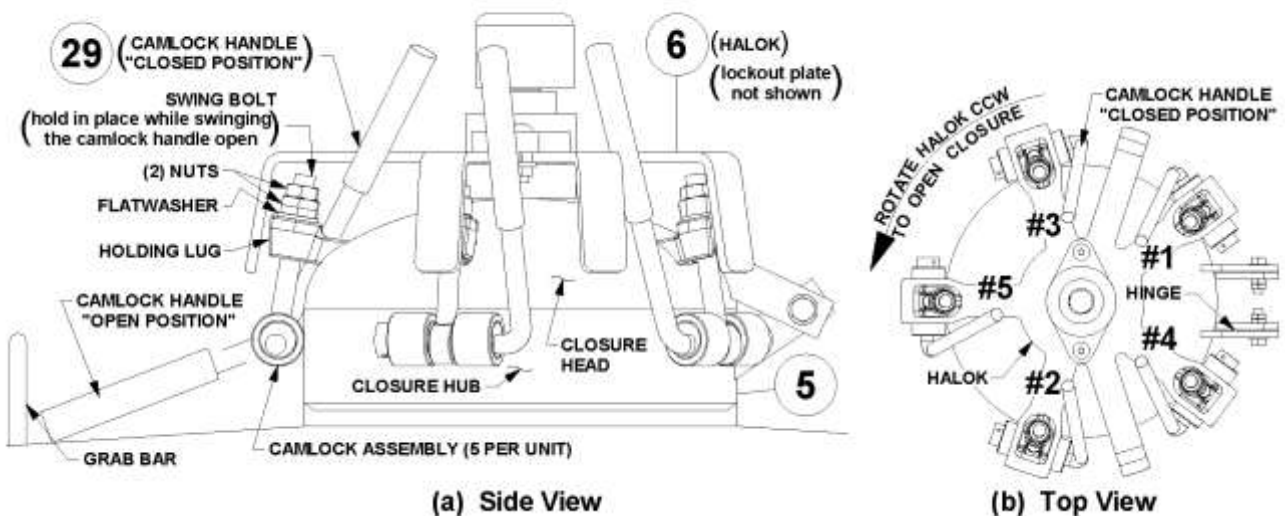

Figure 6.3.1 – Bulk Abrasive Blaster Closure Assembly
- 6.3.3. In the numbered sequence shown in Figure 6.3.1(b), swing each of the camlock handles (#29) of the closure (#5) into the “open position.” **DO NOT** swing any swing bolts out of the holding lugs. Hold the swing bolt within the holding lug with one hand, and swing each camlock handle down with the other hand. **Note:** The Halok® Assembly (#26) prevents the swing bolts from swinging out of the holding lugs until all camlock handles are in “open” position. See Figure 6.3.1.